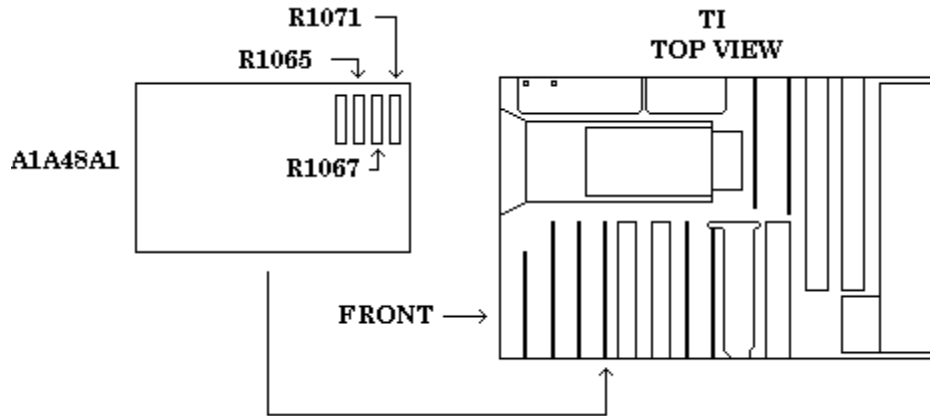
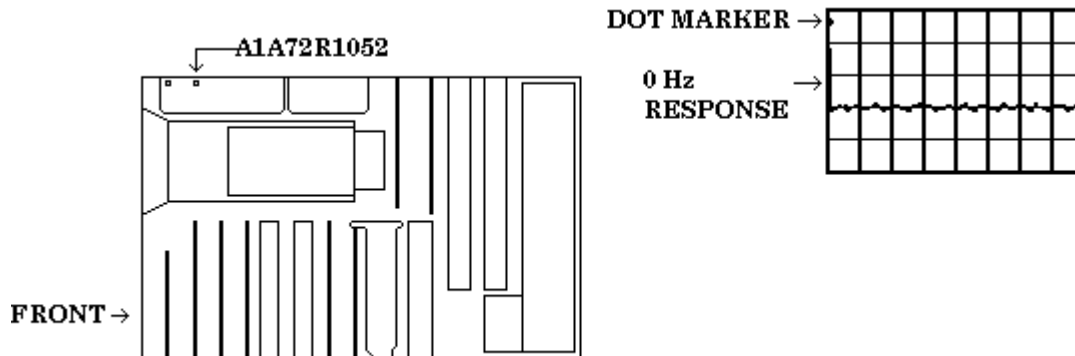

Figure 3. Span/div adjustment.
Figure 4. 0 Hz adjustment.
- (10) Set pulse generator for a 10 ns output at an amplitude of 2.00 V.
- (11) Use TI **CENTER/MARKER FREQUENCY** knob to align 2nd marker from left to TI second vertical graticule line.
- (12) Adjust A1A48A1R1065 (fig. 3) for one marker per division over center eight divisions of CRT (R).
(14) Connect oscilloscope calibrator **SOURCE/MEASURE CHAN 1** to **TI RF INPUT 50Ω**.
(15) Press TI keys as listed in (a) through (d) below:
(16) Set oscilloscope calibrator for a 200 ns **MARKER** output.
(17) Use TI **CENTER/MARKER FREQUENCY** knob to align 2nd marker from left to TI second vertical graticule line.
(18) Adjust A1A48A1R1071 (fig. 3) for one marker per division over center eight divisions of CRT (R).
(19) Press TI keys as listed in (a) through (d) below:
(20) Use TI **CENTER/MARKER FREQUENCY** knob to align 2nd marker from left to TI second vertical graticule line.
(21) Adjust A1A48A1R1067 (fig. 3) for one marker per division over center eight divisions of CRT (R).
(22) Set oscilloscope calibrator to standby.
(23) Press TI **BLUE SHIFT** then **RESET** keys.
(24) Disconnect oscilloscope calibrator **SOURCE/MEASURE CHAN 1** from **TI RF INPUT 50Ω**.
(25) Adjust A1A72R1052 (fig. 4) dot marker over 0 Hz response as shown in example waveform in fig 4 (R).